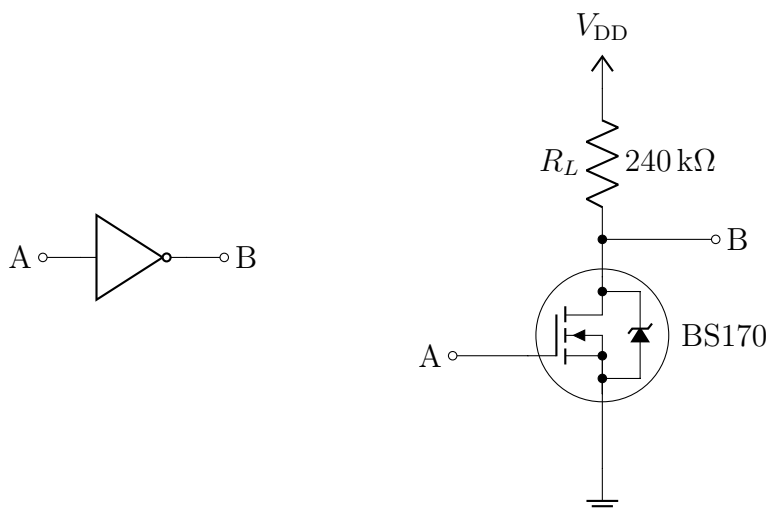
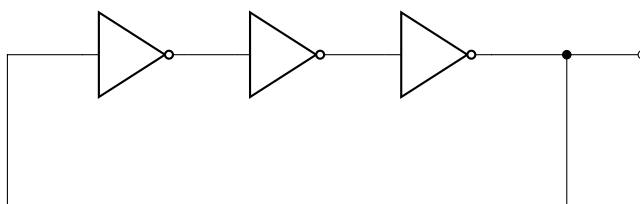

Figure 3: Inverter Gate Symbol and Discrete Diode Implementation
Figure 5: Ring Oscillator Using 3 Inverters
An inverting function cannot be implemented with diodes and resistors alone. A transistor is needed to provide the inverting action. In this lab, you will use the BS170 N-type Metal Oxide Semiconductor Field Effect Transistor (NMOSFET). If the voltage present at the gate of the transistor is above 0.7 V (high), the transistor will conduct, reducing the output voltage to logical ‘0’. If the input voltage is logical ‘0’ (low), then the transistor does not conduct, and zero voltage drops across the load resistor which results in the output voltage being ‘1’. A current-limiting resistor at the gate is always needed, otherwise excessive gate current might destroy the transistor. The circuit used in the electrical characterization of the MOS inverter with a resistive load is shown in Figure 3. Digital integrated circuits are circuits based on the principles of Boolean algebra. The binary logic variables in this algebra can assume only one of two possible values which are called the logical ‘0’ and ‘1’ levels. In the electronic circuit implementation of Boolean algebra, these variables correspond to the values designated by the voltages V_{OL} and V_{OH} .
We usually denote negation with a bar above a character. Hence, in Figure 3 we have
2. One very useful application of an Inverter gate is the Inverter Ring Oscillator shown in Figure 5. You will build a self-sustaining Ring Oscillator and measure its output square-wave frequency. (A similar circuit can be built using NAND gates chained together. You have all the knowledge you need to build this circuit, too. Hint: to build a Ring Oscillator with NAND gates, one of the two inputs needs be set to Ground. Most designers choose either the A or B input to be grounded for each NAND gate in the chain in this application.)
1. Build the Ring Oscillator in Figure 5 using an odd number of the discrete NMOSFET BS170 Inverters shown in Figure 3. Observe the output waveform. Notice that no input excitation at the first inverter is needed; the circuit should oscillate at a high frequency when the inverters are on (i.e. when VDD is applied to each discrete MOSFET inverter). Zoom out to view at least 4 periods of the ring oscillator output when determining its period of oscillation.